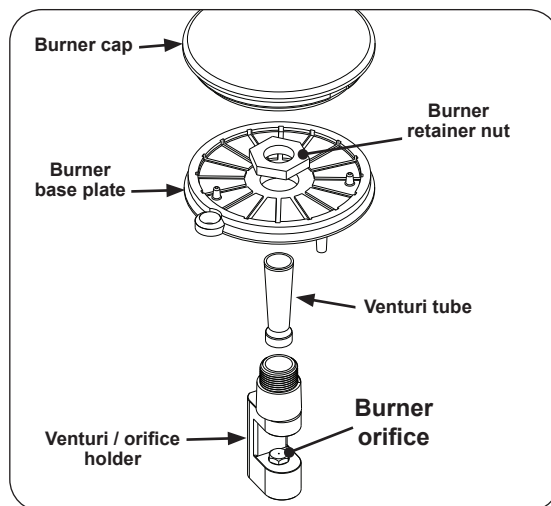

Fig. 29-1 Burner details
2. Remove the retainer nut using an adjustable wrench (see Fig. 29-1).
3. Remove the burner base plate and the venturi tube (see Fig. 29-1).
4. Carefully lift out the entire sideburner body from the enclosure and carefully set it on it's side to access the venturi/orifice holder. See Fig. 29-1.